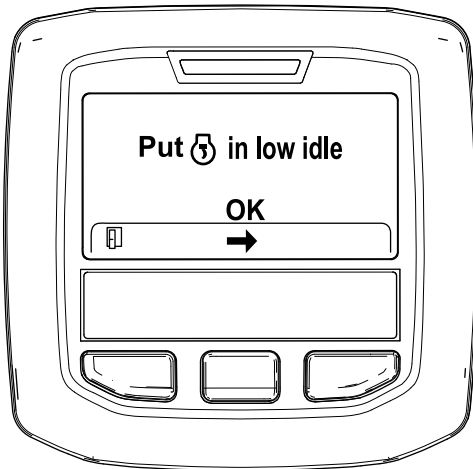

Figure 47
6. Move the throttle control to LOW IDLE and press the center button (Figure 47).